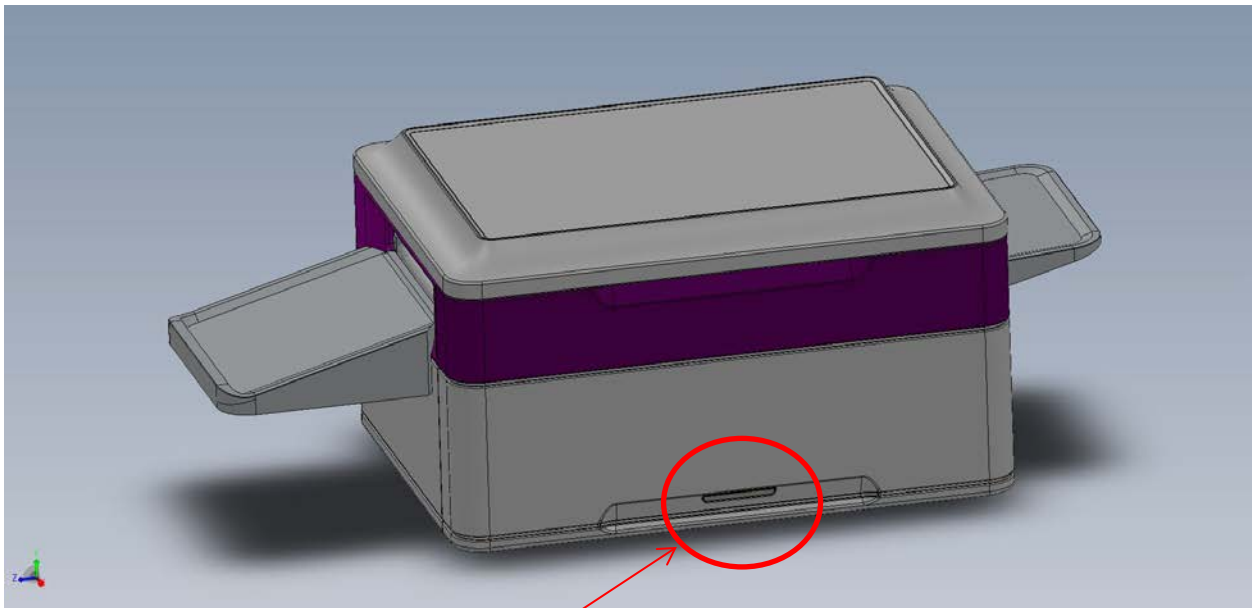

FIGURE 2.STATUS INDICATOR
The status indicator (figure 2) will switch from red to blue before displaying green. The green color is an indication that ALUVIS is ready to be used.
- f) Thirty five (35) seconds after the last device was detected by the ultrasonic sensor the ALUVIS roller based conveyor and the UV-C lamps will be turned off.
- g) The status indicator (figure 2) will turn green.
- c) The status indicator (figure 2) will not display a color and the internal fans will shut off.